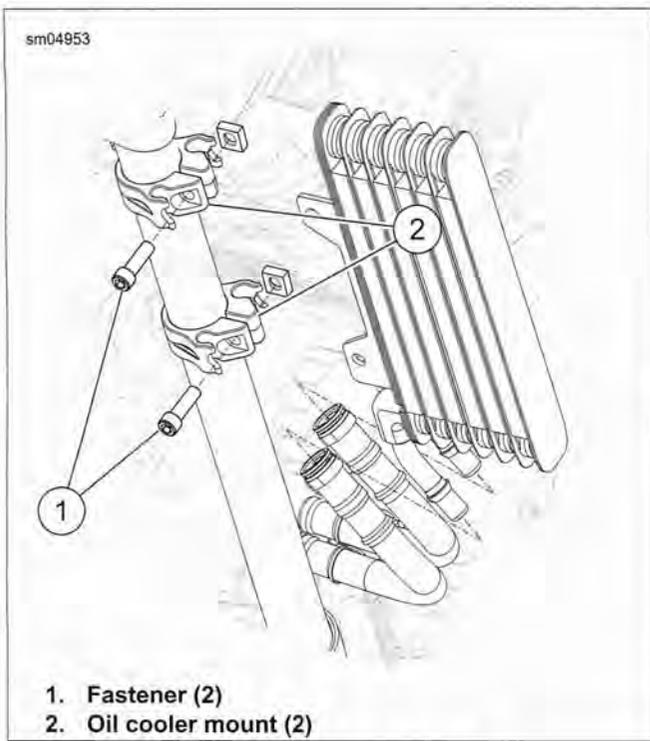

Figure 3-21. Oil Cooler Mounts
- h. Starter relay wire (GN) at starter motor. See 6.12 STARTER.
- i. Engine Temperature (ET) sensor connector [90]. Cut and remove barbed cable strap securing sensor harness to H-bracket. See 4.8 ENGINE TEMPERATURE (ET) SENSOR.
27. See Figure 3-21. Remove oil cooler fasteners (1) from frame mounts (2) and remove oil cooler. It is not necessary